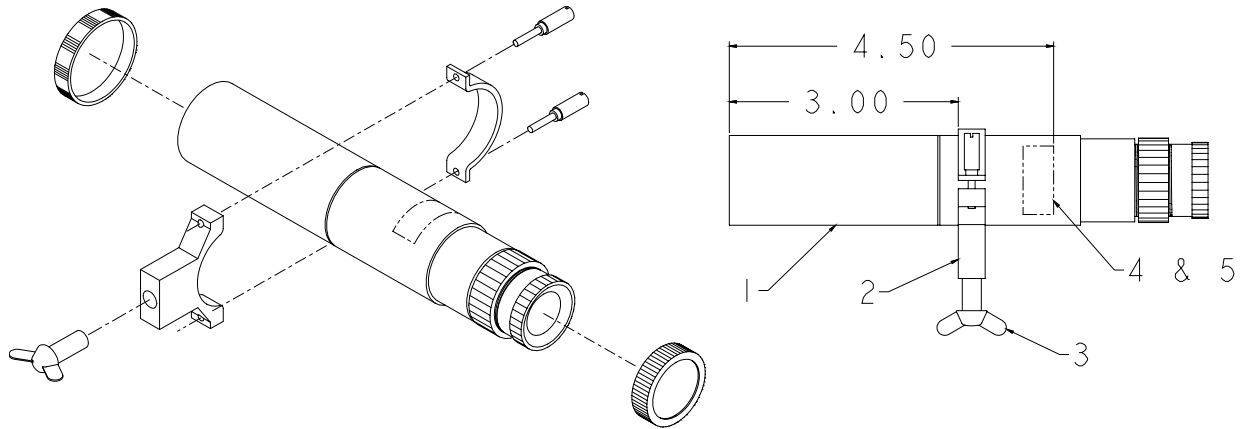

Figure 1: Assembling the Diopter Scope Assembly
2. Attach the Ring Mount (Item 2) to the Finder Scope (Item 1) by loosening the thumbscrews and sliding it onto the scope. Secure the Ring Mount on the cylindrical surface of the scope approximately 3 inches from the larger (Objective) end that is opposite the eyepiece as shown in Figure 1. After positioning, tighten the thumbscrews with a flat head screwdriver from your Tool Kit.
4. Place the newly created ID label approximately 4 1/2 inches from the Objective end of the Finder Scope as shown in Figure 1.